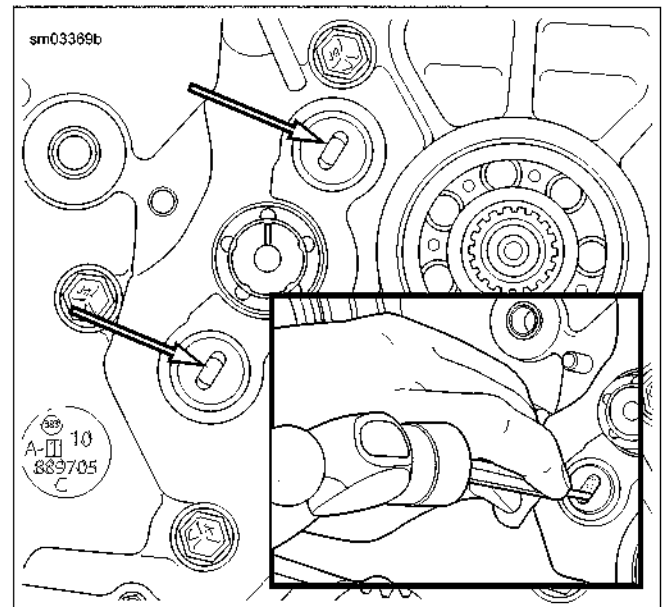

Figure 5-33. Slots For Removing Shifter Fork Shafts
- See Figure 5-33. Remove shifter fork shafts by inserting a small flat punch in the slots and tapping on the end of each shaft until it falls free.